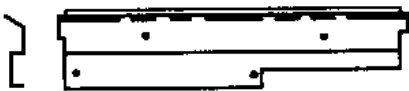

Figure 4
7. Install a can stop shim on the right side of the column. See figure 4.